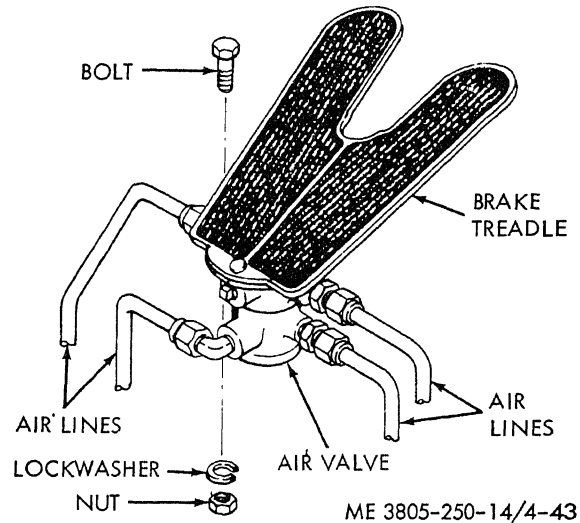

Figure 4-43. Brake air valve, removal and installation.
(1) Block the wheels or apply the parking brake.
(2) Open the drain cock on the main air reservoir.
(3) Clean the air valve and surrounding area to remove dirt and grease.
(4) Disconnect air lines from the valve (fig. 4-43). Cap or plug ports and fittings to prevent entry of dirt.
(5) Remove three bolts, washers and lock-washers securing the valve to the cab floor, and remove from loader.